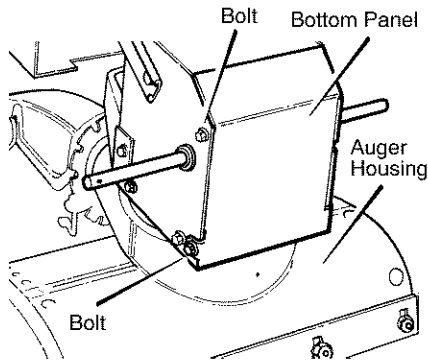

Figure 45
2. Loosen the **bolts** on each side of the **bottom panel** (see Figure 45).